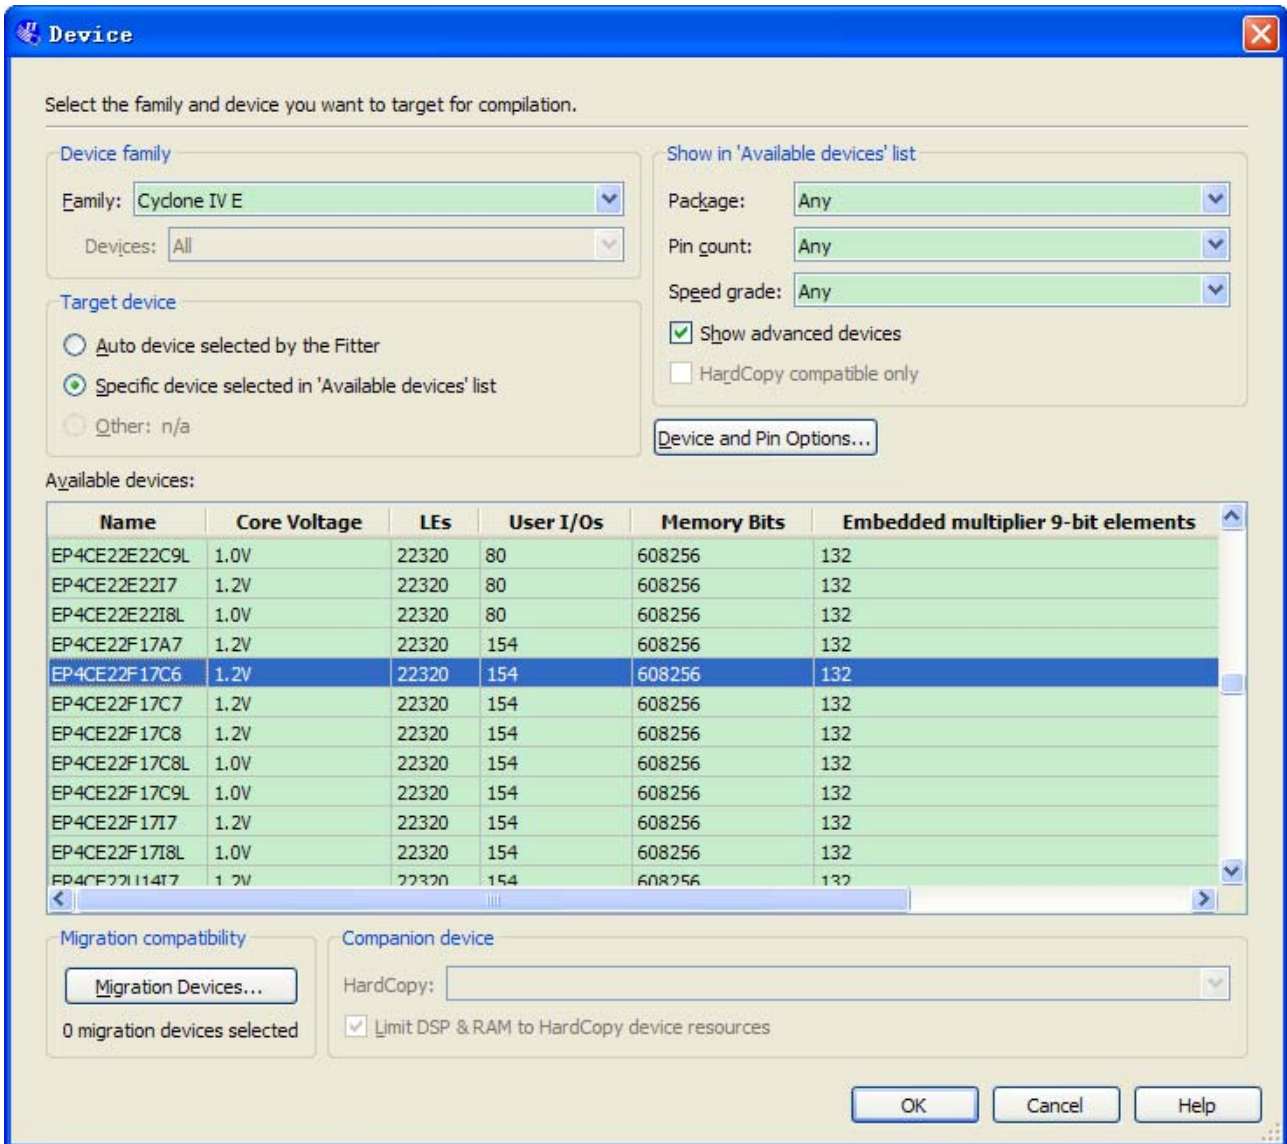

Figure 4-6 Device and Options
- If other LEDs emit faintness light, Choose Assignments > Device. Click Device and Options. See **Figure 4-6**.